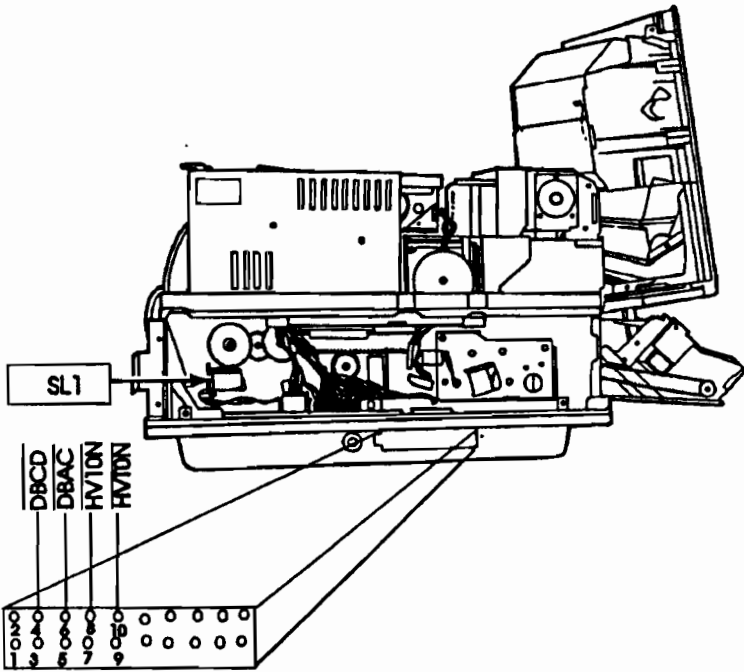

Figure 7-36. J210 Test Points
1. Using a voltmeter and frame ground as a reference, measure the voltage level at J210-8 (Test Connector, see Figure 7-36) on the DC Controller PCA while performing a Test Print. The voltage level should switch between +18.0 Vdc (disabled state) and 0.0 Vdc (enabled state) one second after the print cycle begins. If the voltage at J210-8 does not switch, replace the DC Controller PCA. If the signal line is being switched but the Primary Corona does not appear to be functioning (i.e., producing black pages), replace the EP-S Cartridge followed by the High-Voltage Power Supply Assembly.
1. Using a voltmeter and frame ground as a reference, measure the voltage level at J210-6 (Test Connector, see Figure 7-36) on the DC Controller PCA while performing a Test Print. The voltage level should switch between +18.0 Vdc (disabled state) and 0.0 Vdc (enabled state) three seconds after the print cycle begins. If the voltage at J210-6 does not switch, replace the DC Controller PCA. If the signal line is being switched but the developer AC bias does not appear to be functioning (i.e., producing very faint print), replace the EP-S Cartridge followed by the High-Voltage Power Supply Assembly.
1. Using a voltmeter and frame ground as a reference, measure the voltage level at J210-4 (Test Connector, see Figure 7-36) on the DC Controller PCA while initiating the printer Self Test. The voltage level should switch between +18.0 Vdc (disabled state) and 0.0 Vdc (enabled state) one second after the print cycle begins. If the voltage at J210-4 does not switch, replace the DC Controller PCA. If the signal line is being switched but the developer DC bias does not appear to be functioning (i.e., producing extremely faint or white pages), replace the EP-S Cartridge followed by the High-Voltage Power Supply Assembly.
1. Using a voltmeter and frame ground as a reference, measure the voltage level at J210-10 (Test Connector, see Figure 7-36) on the DC Controller PCA while initiating the printer Self Test. The voltage level should toggle between +18.0 Vdc (disabled state) to 0.0 Vdc (enabled state) two seconds after the print cycle begins. If